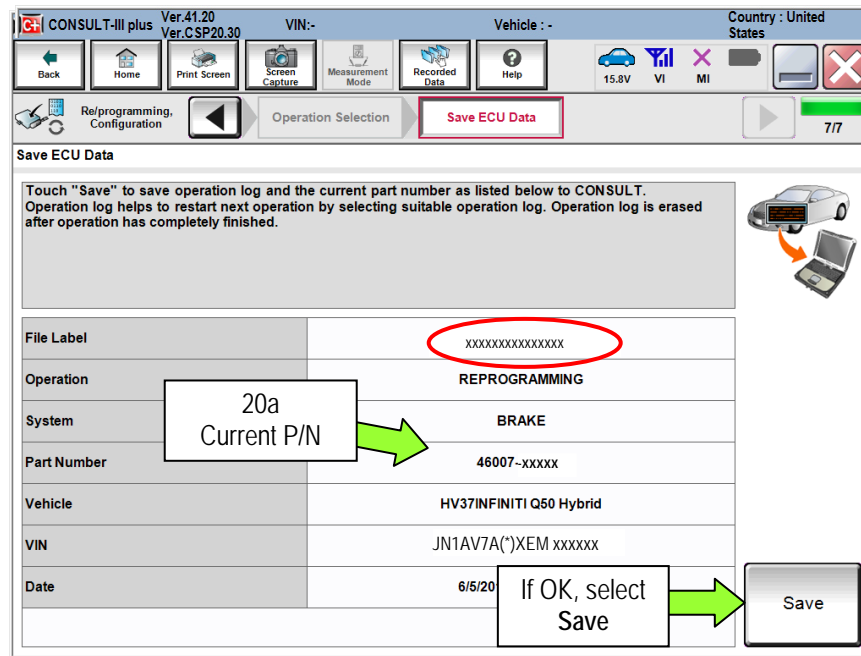

Figure 8
20. When you get to the screen shown in Figure 8, confirm this bulletin applies as follows.